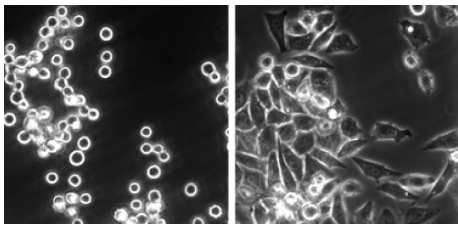

Figure 8 Cell Adhesion and Culture
4. Cells can be cultured in the plates with a standard incubator prior to microscopy (see Figure 8). Wash and replace well 5 with 300  $\mu$ l of cell culture medium. Add 50  $\mu$ l of PBS or medium to well 6. This will cause the fresh medium to perfuse the loaded cells by a gravity flow from 5-->6 at a rate of 20  $\mu$ l/day. Place the plate in a standard incubator for attachment and growth. Aspirate liquid from 6 and add medium to 5 every 3-5 days to maintain perfusion flow.